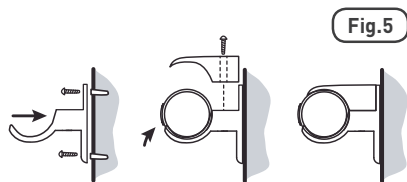

Fig.5
- Once a suitable location has been found, screw the two bottom halves of the bracket to the wall (Fig.5).